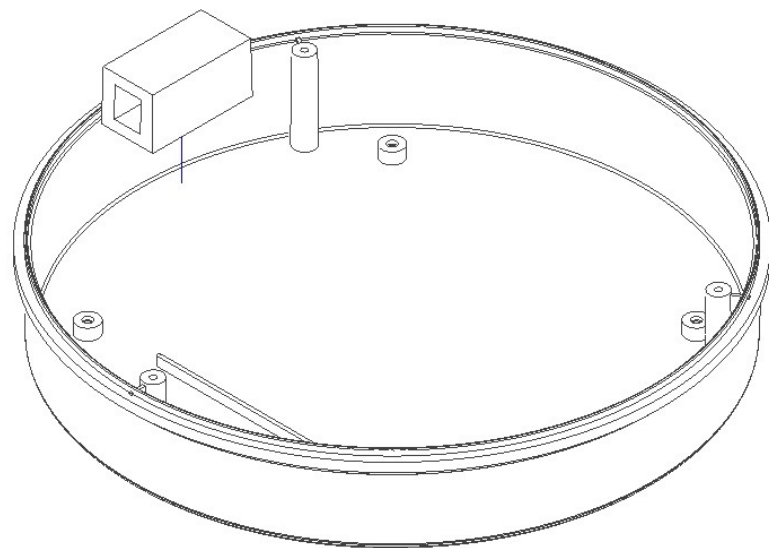

Figure 1 - Surface Mount Box Install
**Step 2** – A surface mount box (or biscuit jack) and equipment cord can be conveniently mounted inside the Model 1018. (Non-plenum rated cables can be used inside a plenum rated enclosure). Use an adhesive backed surface mount box. Consider bend radius of horizontal cable and equipment cord when attaching the surface mount box (Figure 1).